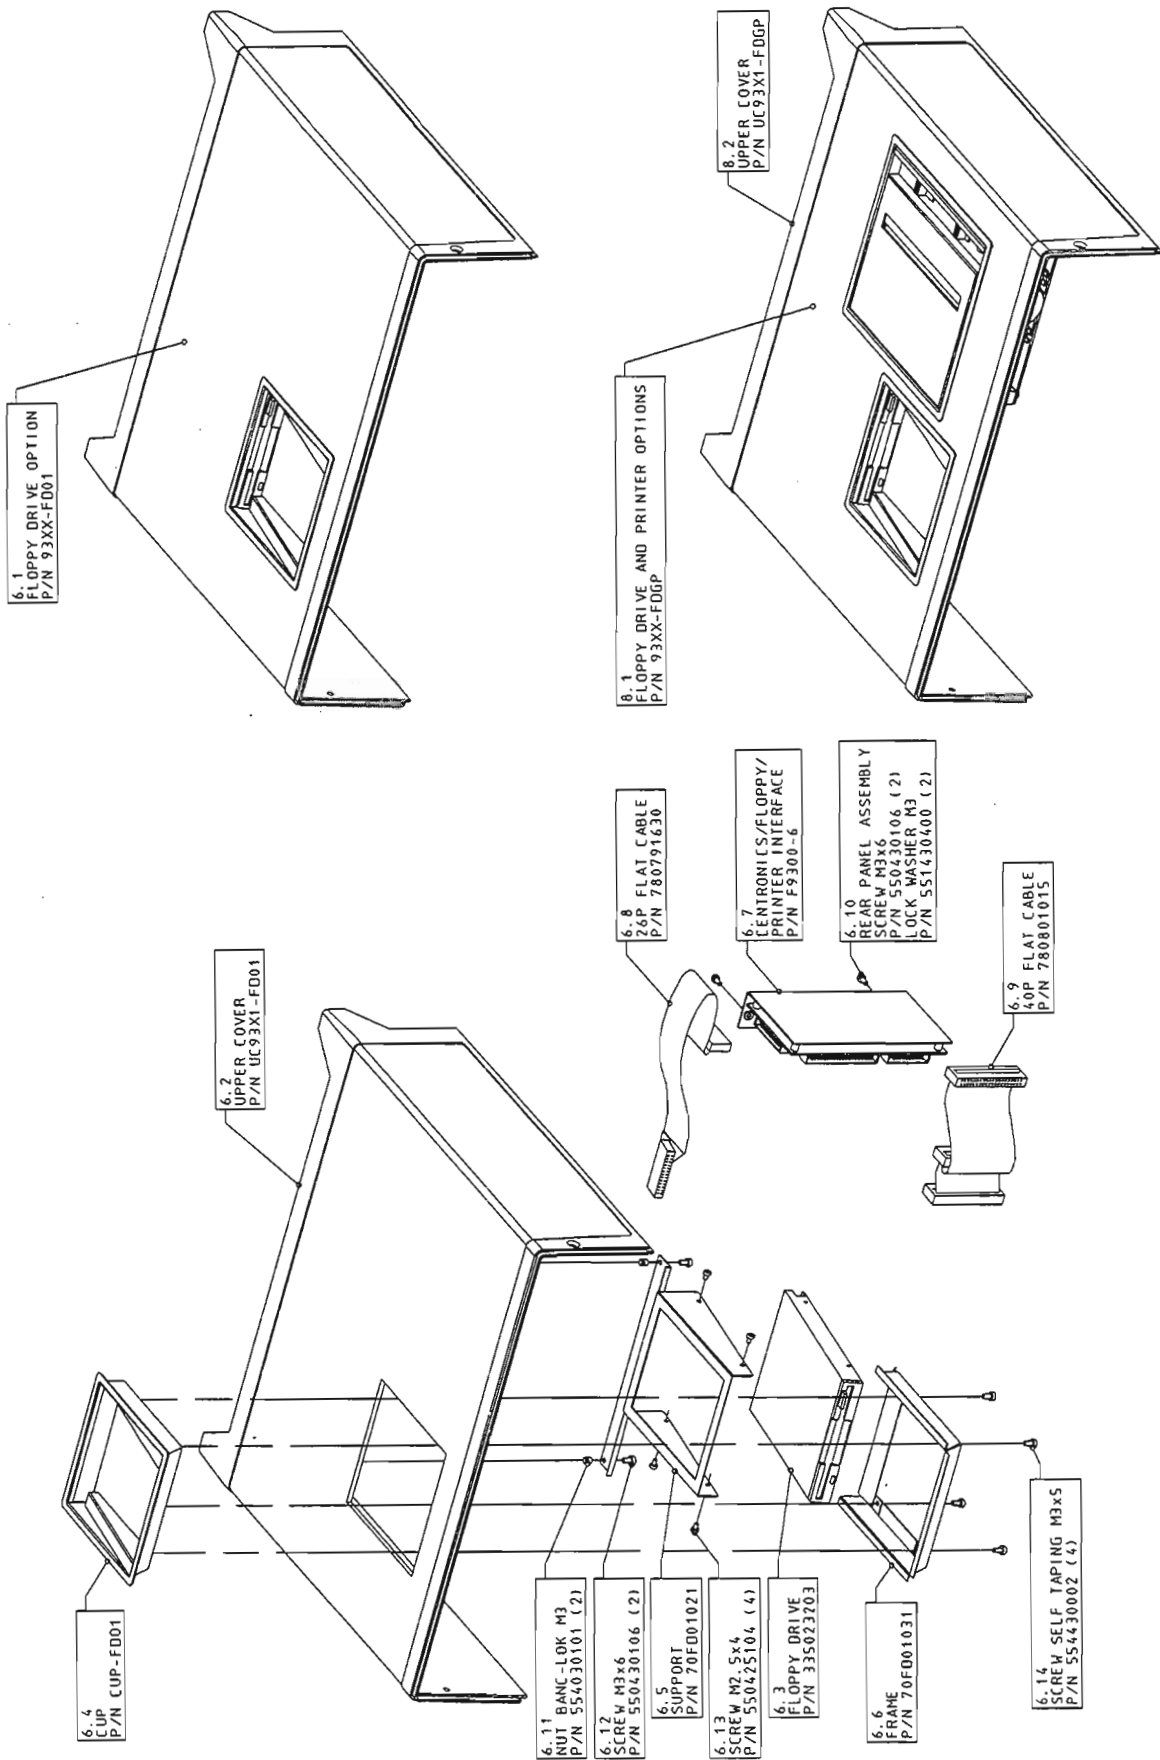
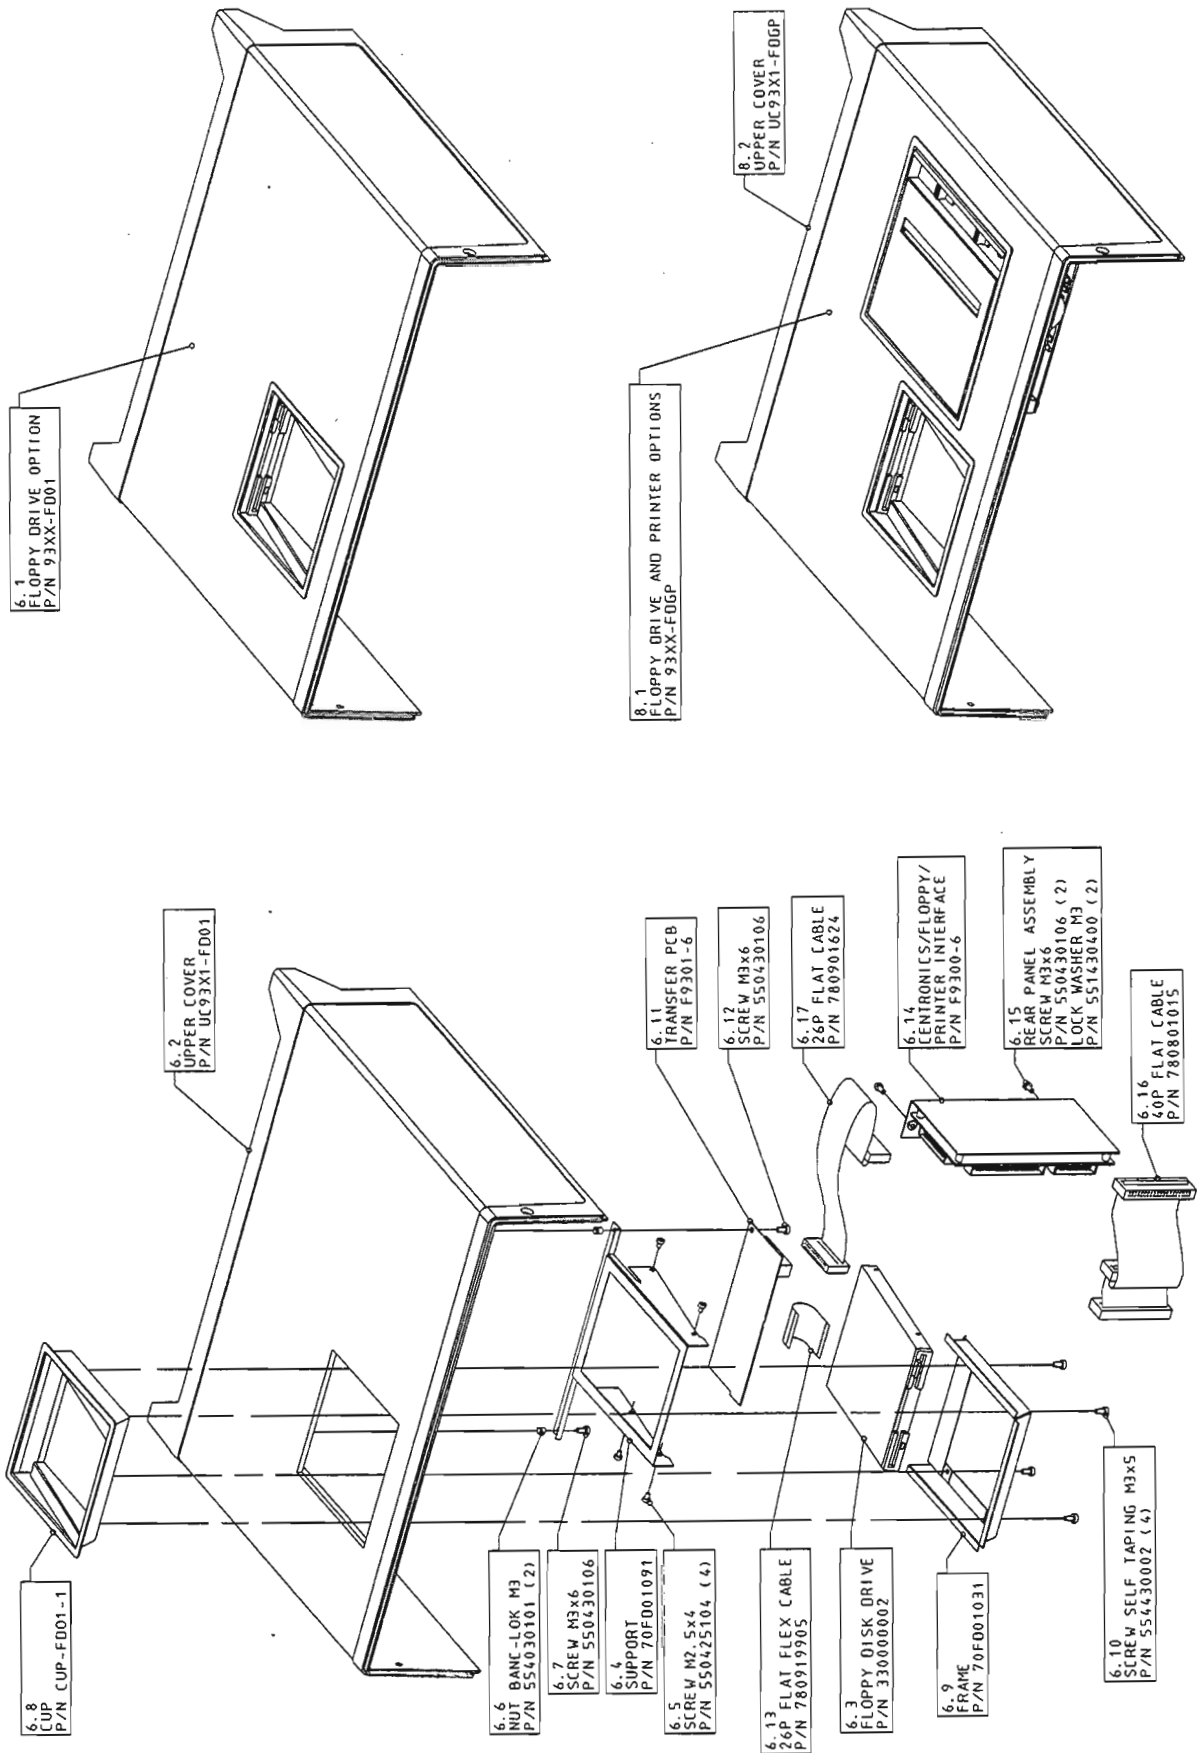

Figure 6.5 : Floppy Drive Assembly P/N: 335023203
Figure 6.6 : Floppy Drive Assembly P/N: 330000002
- Disconnect the flat ribbon cable from the F9300-6 interface ( see figure 6.5 & 6.6 ).
- Remove the support 70FD01021 ( See figure 6.5 ) or 70FD01091 ( See figure 6.6 )
- Remove the frame 70FD01031 ( See figure 6.5 & 6.6 ) from the cover.
- Disconnect the flat cable P/N : 780801015 from the F9300-4 GPIB/RS232 board ( see figure 6.6 or 6.7 ).